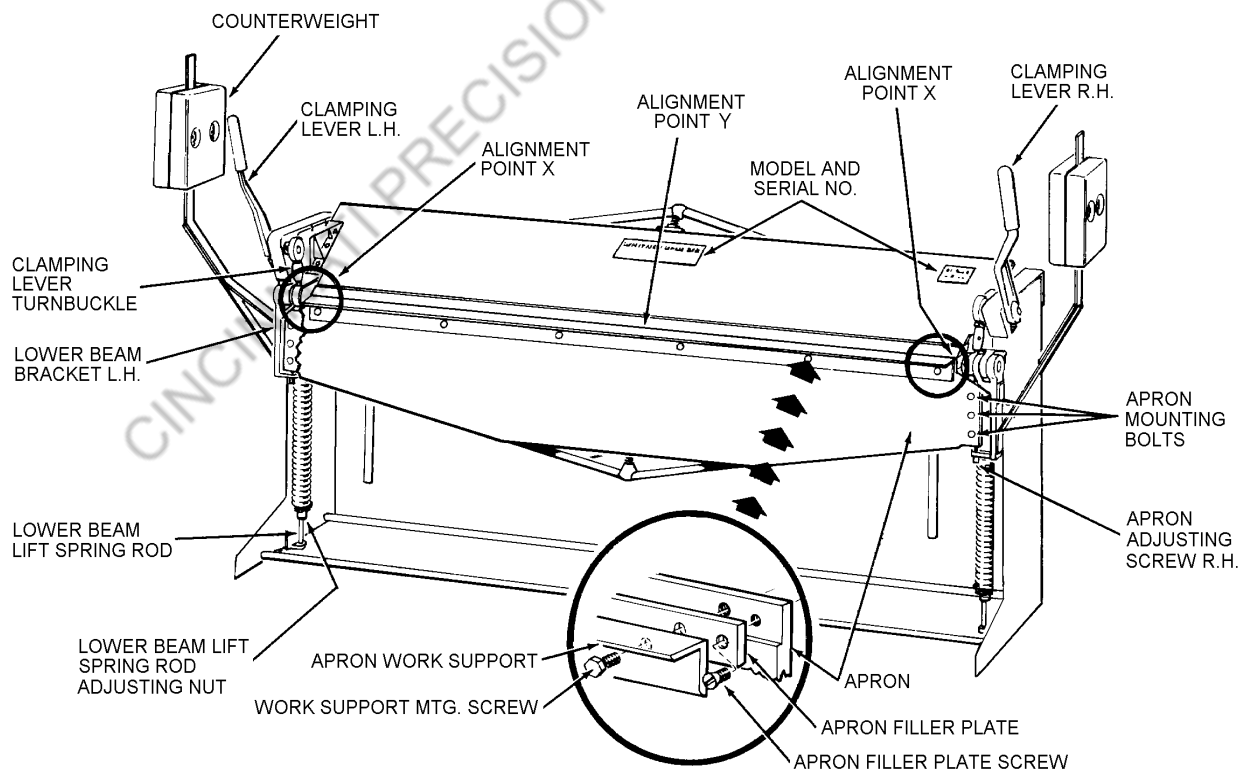
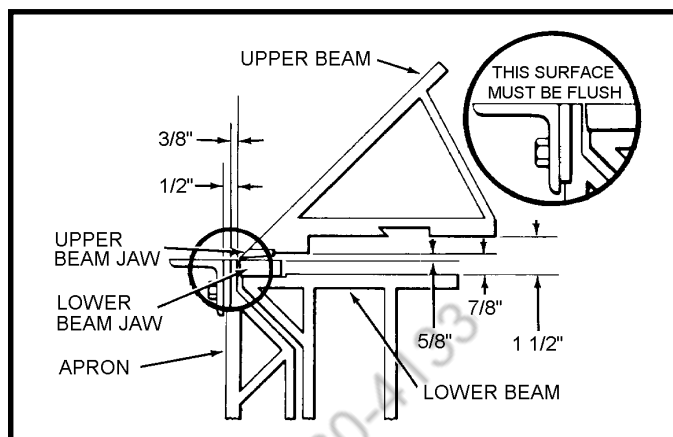
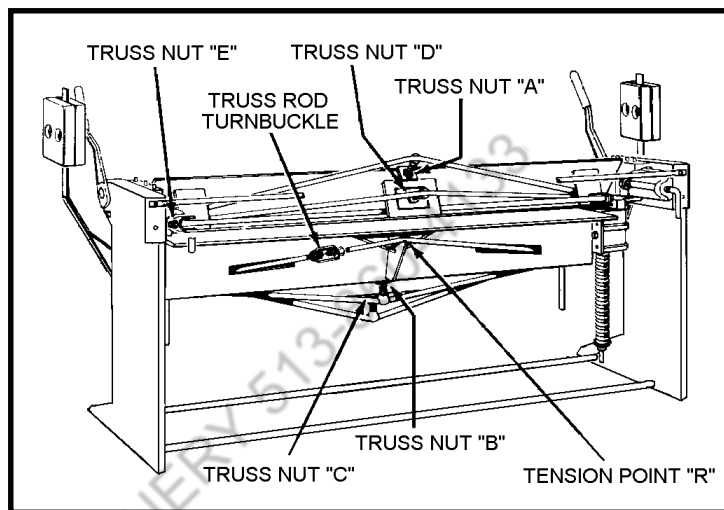

Figure 2. Front View of Brake
Figure 3. Reference Dimensions
Figure 7. Rear View of Brake Showing Tension Adjustment Points
1. Apron angle iron work support (see figure 2) is removed.
2. **ADJUSTMENTS FOR BOWING:** (Refer to figure 7 for location of Truss Nuts).
SOLUTION: Tighten Truss Nut (B). Level the Apron with the Lower Beam Jaw (see figure 3).
If 90° sample bend is true at both ends but less than 90° at center of piece, loosen Apron Mounting Bolts (figure 2) and lower the Apron approximately 1/32" by unscrewing the Apron Adjusting Screws. Retighten the Apron Mounting Bolts and tighten Truss Nut (C) (figure 7) until both jaws of brake are flush at brake center (see figure 3).
The opening between the brake jaws may be increased to a maximum of 1 5/8". With the Clamping Levers in the unlocked position, turn the Lower Beam Lift Spring Rod Adjusting Nut (figure 2) at each end of brake downward until the desired opening is obtained.
1. Loosen all Truss Nuts (A, B, C, D, E, figure 7) and Truss Rod Turnbuckle until all tension is released.
2. Tighten the Truss Rod Turnbuckle until the rods are snug at tension point (R). Tighten an additional 1/4 turn.
3. Tighten Truss Nut (B) until snug. Tighten an additional three complete turns.
4. Check Apron at the alignment points (X, figure 2) to see if it is flush with top of Lower Beam Jaw (see inset, figure 2). Up and down movement of the Apron is controlled by turning the Apron Adjusting Screw (figure 2) at each end of the Apron.
5. Tighten Truss Nut (C, figure 7) until Apron is flush with Lower Beam Jaw at alignment point (Y, figure 2).
6. Tighten Truss Nut (E, figure 7) as tight as possible.
7. Tighten Truss Nut (A) until the Upper Beam Jaw is straight and parallel in relation to the Lower Beam Jaw.
8. Tighten Truss Nut (D) until the center of the Upper Beam Jaw bows forward slightly.
Remove Apron Angle Iron Work Support and Apron Filler Plate (inset, figure 2). This permits 3/8" reverse bends to be made on the brake.
2. Increase the distance between the brake jaws by turning the Lower Beam Lift Spring Rod Adjusting Nut (figure 2) at each end of brake downward as far as it will go.